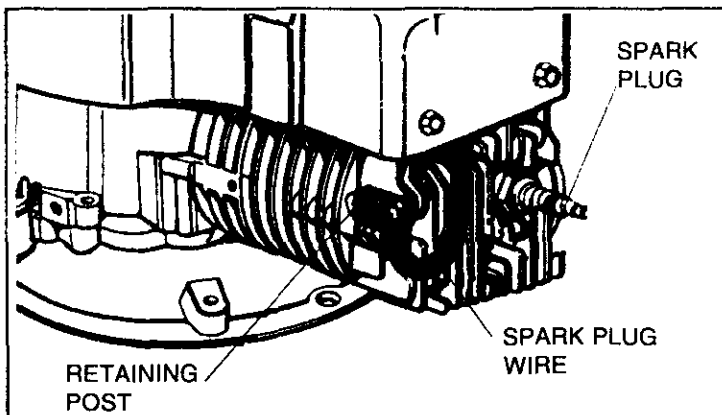

Figure 6
① **READ ALL INSTRUCTIONS PROVIDED WITH THE EQUIPMENT ON WHICH THIS ENGINE IS USED.**
**DISCONNECT SPARK PLUG WIRE FROM SPARK PLUG AND ATTACH IT TO RETAINING POST (see Figure 6 on Page 3).**
**A. DISCONNECT SPARK PLUG WIRE FROM SPARK PLUG AND ATTACH IT TO RETAINING POST (see Figure 6).**